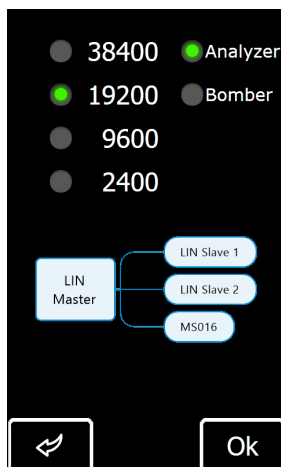
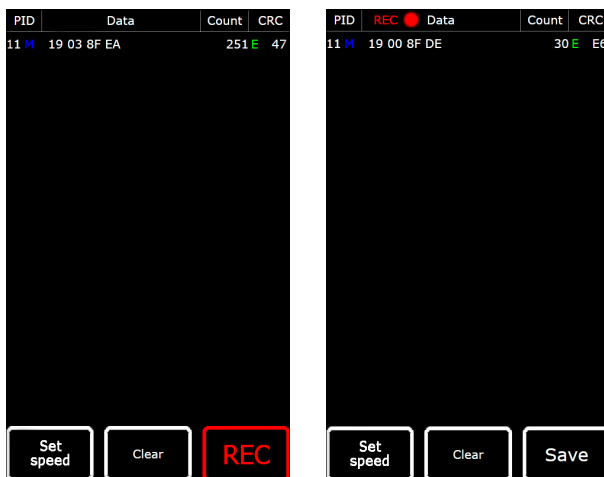
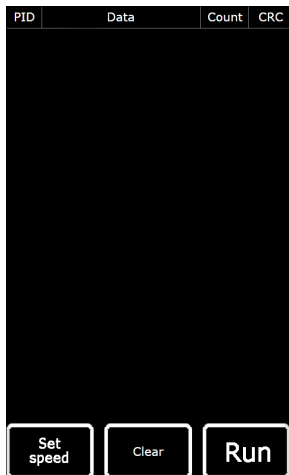

Figure 26. Screen to select a mode and a LIN bus speed
Figure 28. Analyzer Mode Screen
Figure 29. Bomber Mode Screen
3. In the main menu on the tester screen select “LIN Analyzer” and then “Analyzer” (Fig.26) and the bus speed. As you push “Ok”, the data transmitted via the LIN bus will appear on the tester screen (Fig. 28).
3. In the menu on the device screen select “LIN Analyzer”, then “Bomber” and set a LIN bus speed (Fig. 26). Once you push “OK”, the test mode window will appear (Fig. 29).